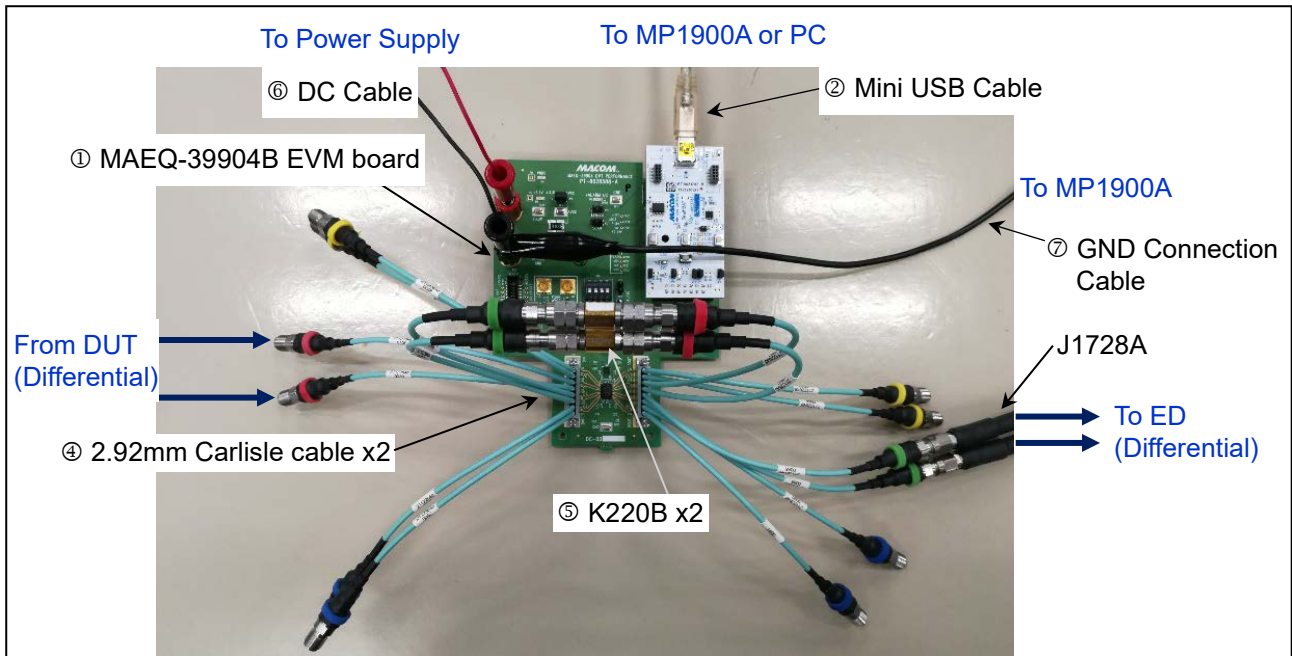

Figure 2.2-1 Cable Connection
3. Connect the cables (refer to Figure 2.2-1).
5. Connect the DUT, MAEQ-39904B EVM board, and the ED of MP1900A referring Figure 2.2-1 “Cable Connection”.